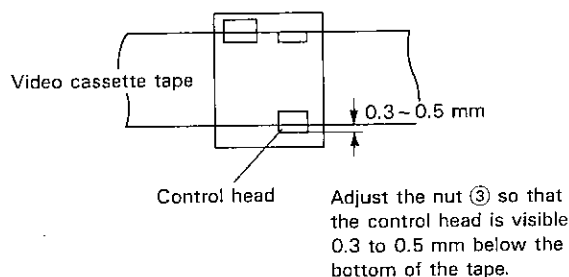

Figure 1-19.
• Replacement (See Figs. 1-19 and 1-20.)
- Loosen the tilt adjusting screw ⑥ by using Phillips screwdriver.
- Remove the azimuth adjusting screw ⑤ with a Phillips screwdriver.
- Remove the A/C head screw ④ with a Phillips screwdriver, paying attention to the spring ⑦ between the A/C head screw ④ and A/C head pedestal.
7. Play an alignment tape and roughly adjust the height of the A/C head, visually, by turning the A/C head adjusting hexagon nut ③ with the box driver (JIGDRIVER110-7) until the tape comes to the position shown below. (See Fig. 1-19.)